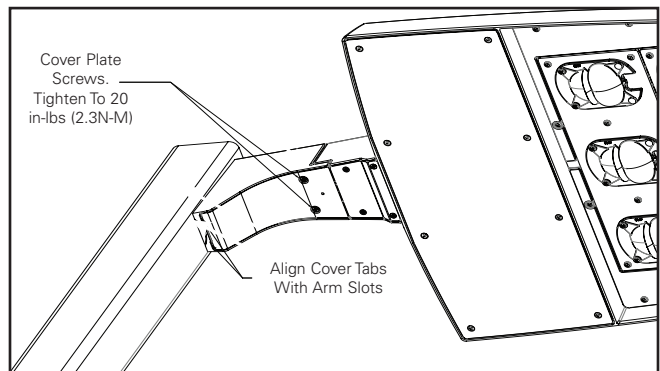

Figure 5.
5. Install arm cover and tighten (2) Phillips head screws to 20 in-lbs. (2.3 N-M). As shown in (Figure 5).